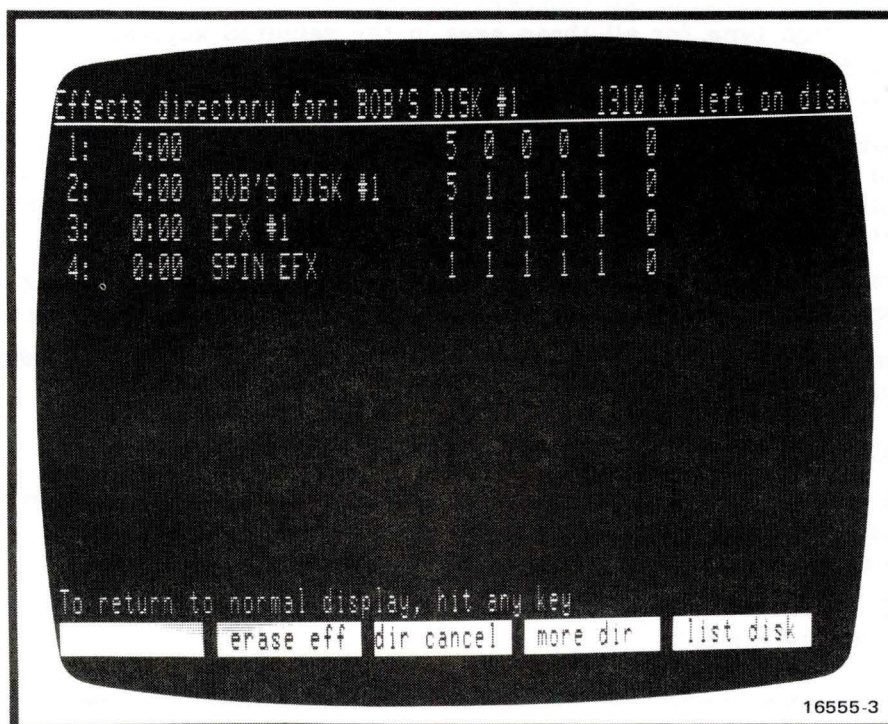

Figure 2-13. List Disk Menu
- **list disk** brings up directory of effects stored on a disk. See Figure 2-13. The directory shows effect number in the first column, effect length in the second column, and effect name, if any, in the third column. The next five columns list the number of keyframes stored in on-line memory for channels 1 through 4 and global. The column at far right lists keyframes using the ADO Concentrator.